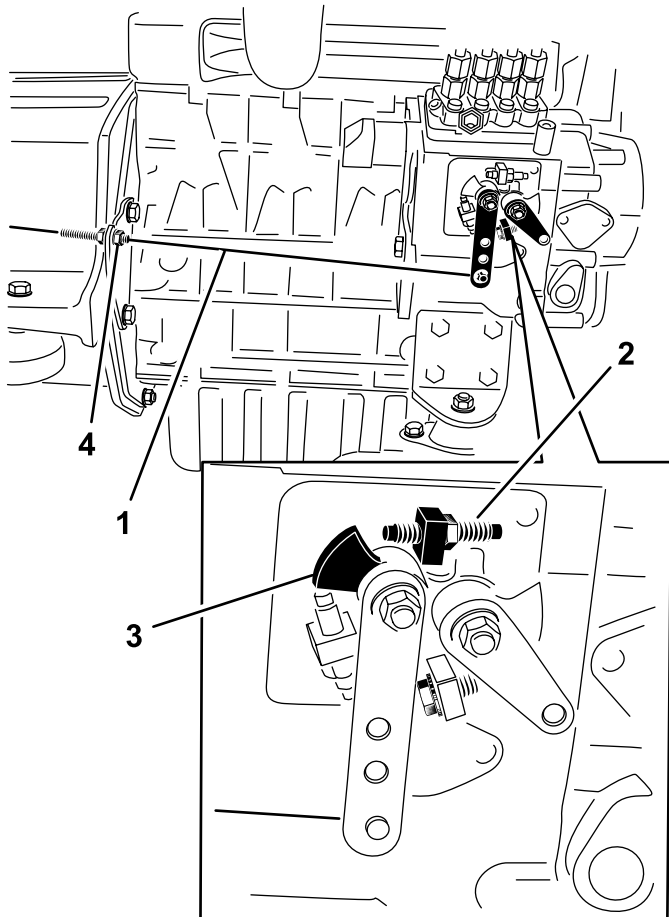

Figure 33
2. Check the position of the speed control lever on the fuel-injection pump. The speed-control lever should contact the high-speed screw when the throttle-control lever is in the FAST (detent) position (Figure 33).
3. If necessary, adjust the position of the jam nuts on the throttle-control cable until the speed-control lever contacts the high-speed screw when the throttle-control lever is in the FAST (detent) position (Figure 33).